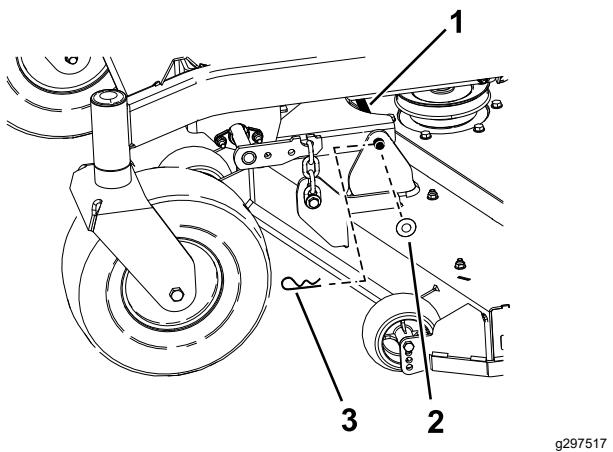

Figure 77
5. Remove the hairpin cotter and washer securing the link pin to the frame and deck, and remove the link bar (Figure 77).
9. Secure the link pin with the hairpin coppers and washers removed previously (Figure 77).